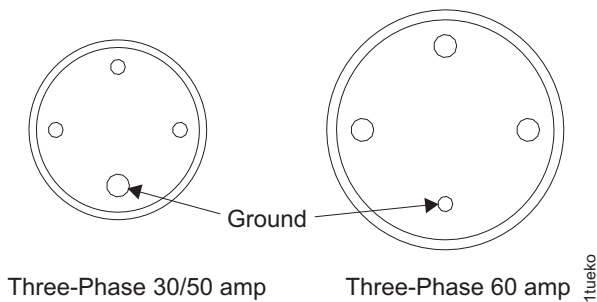

Figure 36. Three-phase amp
5. Prepare the multimeter to measure 0.1 ohm or less resistance. Place one lead of the multimeter on the ground pin of the male plug on the mainline power cable. Place the other lead on the conductive metal of its primary power supply enclosure. Refer to Figure 36 on page 40 for the location of the ground pin. Do this for each mainline power cable.